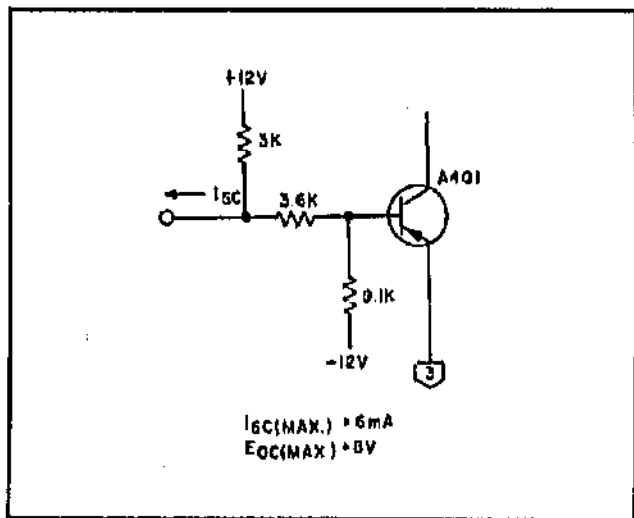

Figure B-3. Cable Continuity Interlock Receiver Circuit
B-30 Cable Continuity Interlock Receiver Circuit. Figure B-3 shows the cable continuity interlock circuit. The three input voltage divider resistors are selected so that a (3) common input will cause A1Q1 to saturate and an open (no input connection) will cause A1Q1 to cut off. The maximum current (I_{SC-MAX}) that could be drawn from the input circuit when the input terminals are short circuited is 6mA. The maximum voltage (E_{OC-MAX}) that appears across the input terminals under open circuit conditions is 9V.